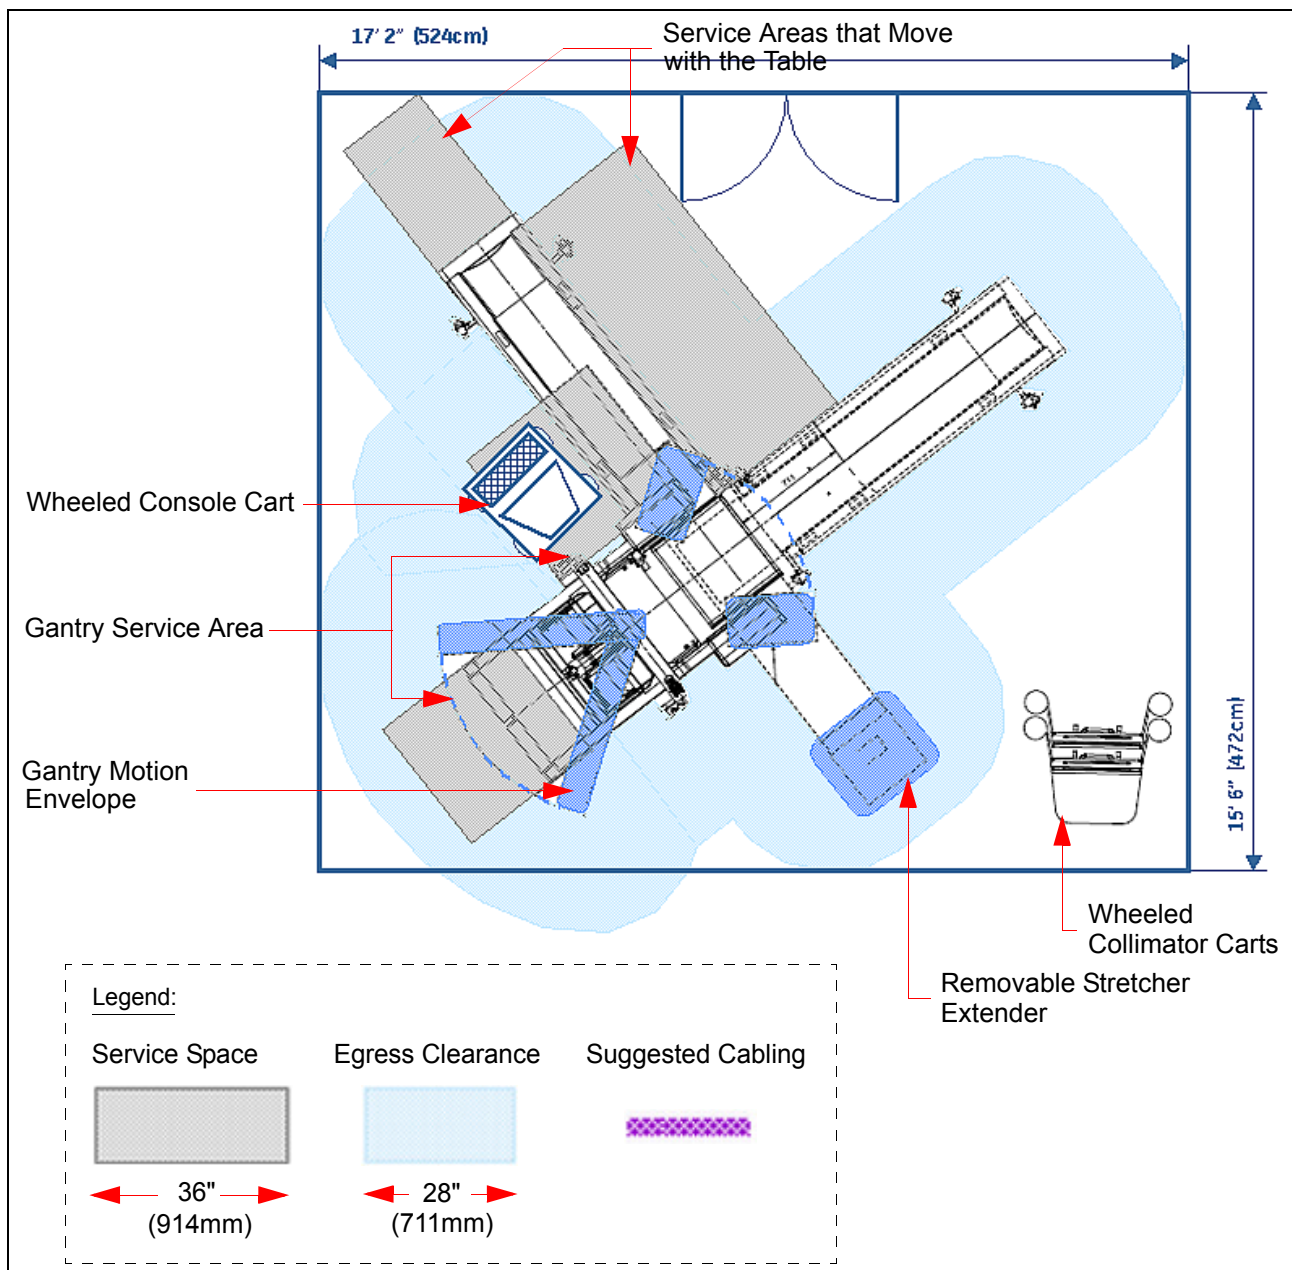

Figure 3-6: MPR/MPS (3-axis Table) Minimum Layout
Figure 3-6 shows a minimum room layout drawing showing location of all basic units for a Millennium MPR/MPS (3-axis) system. Observe that the dimensions given are for installation of the system only, requirements for clinical access, and for peripheral clinical equipment placement, such as storage cabinets, sinks, etc., must be taken into considerations during the room layout.
- All gantry service done on either side as shown in Figure 3-6.
- Table movable for service access, as shown in Figure 3-6.